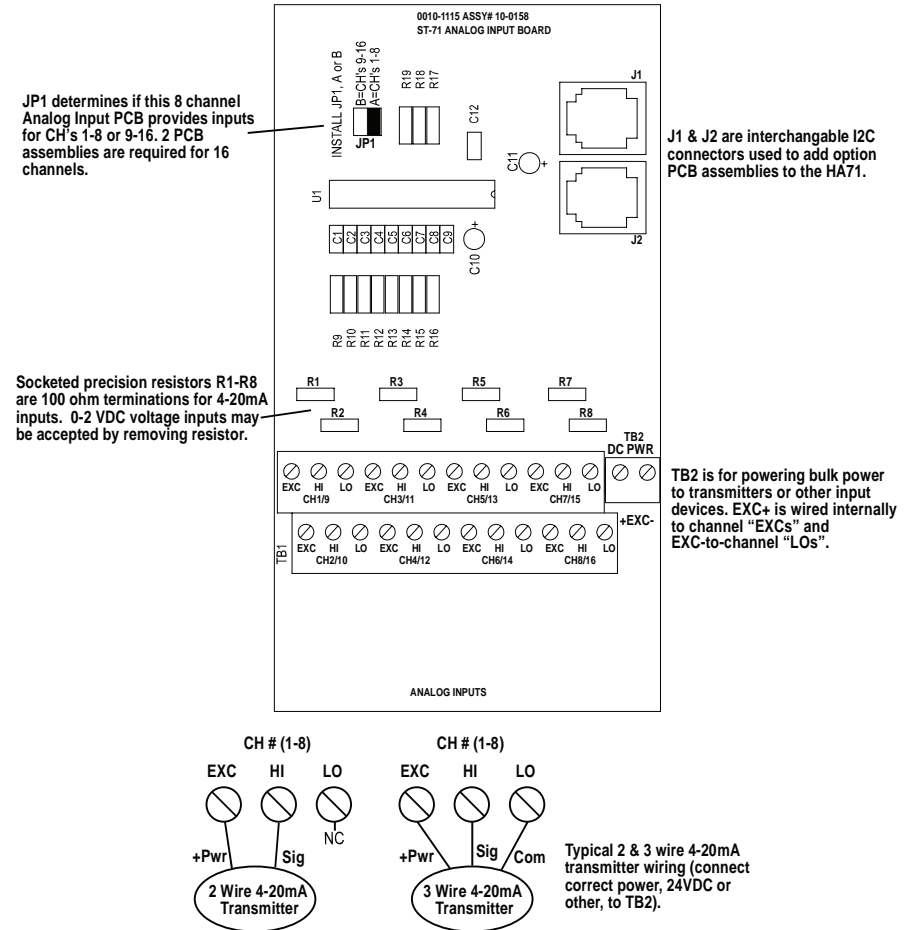

Figure 3-3. 8 Channel Analog Input Option 10-0158
Many transmitters or sensors have analog output signals and the 12 bit *Analog Input PCB*, shown in Figure 3-3, is available to accept these. TB1, with 24 positions, offers 3 terminals per channel for distributing power and receiving analog inputs. These are **EXC** and **HI / LO** inputs. TB2, with only two positions, is for connecting the power supply for powering external transmitters. Precision 100 ohm resistors (R1-R8) between each channel's **IN LO** and **IN HI** terminals are socketed termination resistors for 4-20mA inputs. These may be removed if voltage inputs are to be applied.
**EXC** and **IN LO** terminals are bussed together internally. **EXC** terminals are tied directly to TB2-1 (+) and **IN LO** terminals are tied to TB2-2 (-). Bussing allows transmitter power to be brought into the system at a single point (TB2) and distributed back out at each channel's **EXC** / **IN LO** terminals to simplify field wiring. Figure 3-3 includes typical wiring to 2 and 3 wire 4-20mA transmitters.